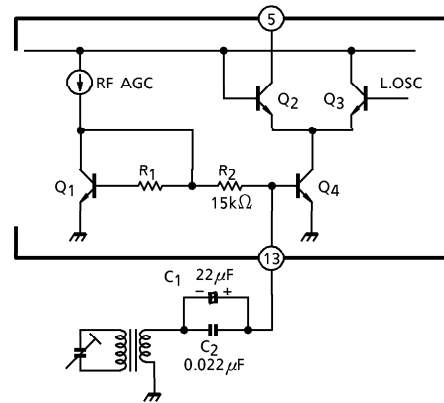

Fig.4
- RF amplifier (See Fig.4)
This stage is composed of emitter-grounded amplifier, the input impedance of which has about 7.3kΩ. It is necessary to connect as Fig.4, because the condenser, C1 is available to the audio by-pass of the RF-AGC, the noise of low frequency.